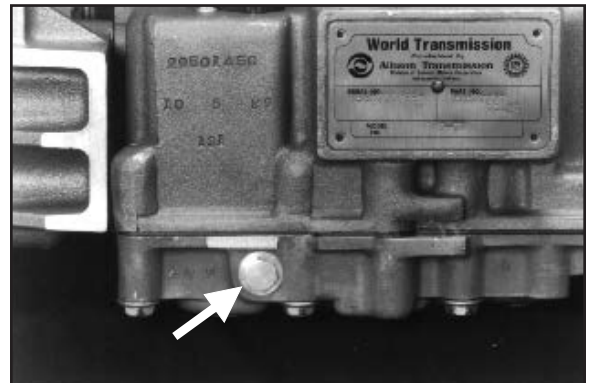

Figure 14
1. Begin by draining the oil from the transmission. Use caution, since the oil may be hot (**Fig. 14**).